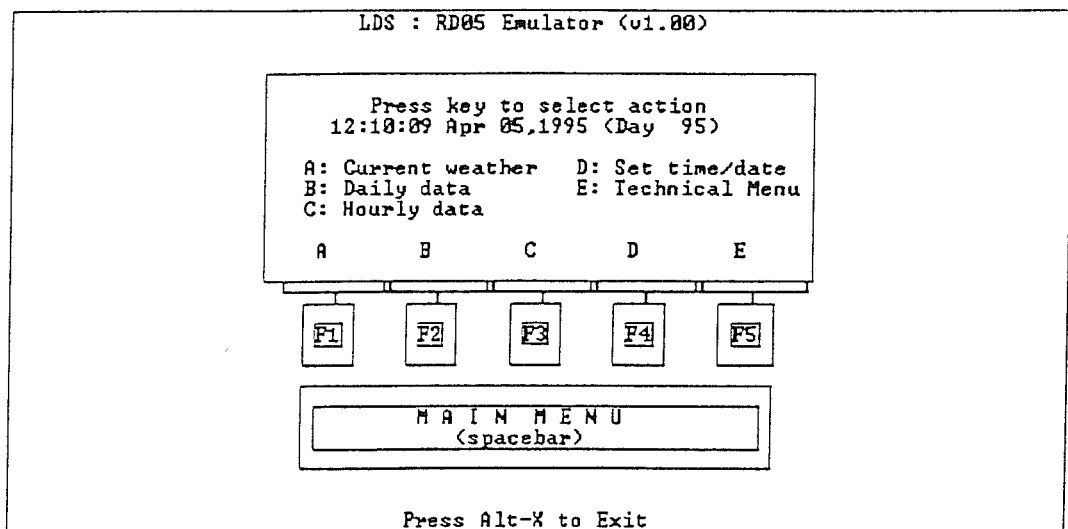

Figure 4-14
14. Tilt the computer display for best viewing. You should have a list of options presented to you (Figure 4-14).